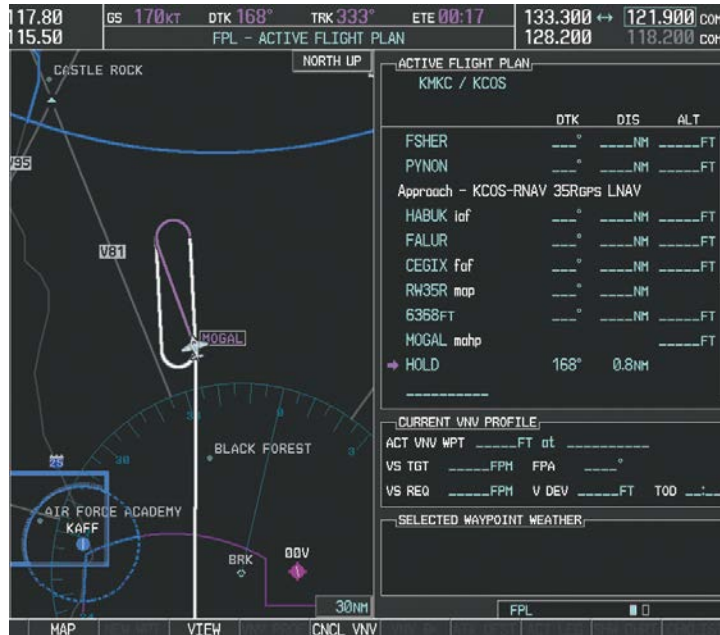

Figure 5-144 Establishing the Holding Pattern
- 26) The aircraft continues climbing to “AT or ABOVE” 10,000 feet at MOGAL. A holding pattern is established at the MAHP (MOGAL) as shown in Figure 5-144.